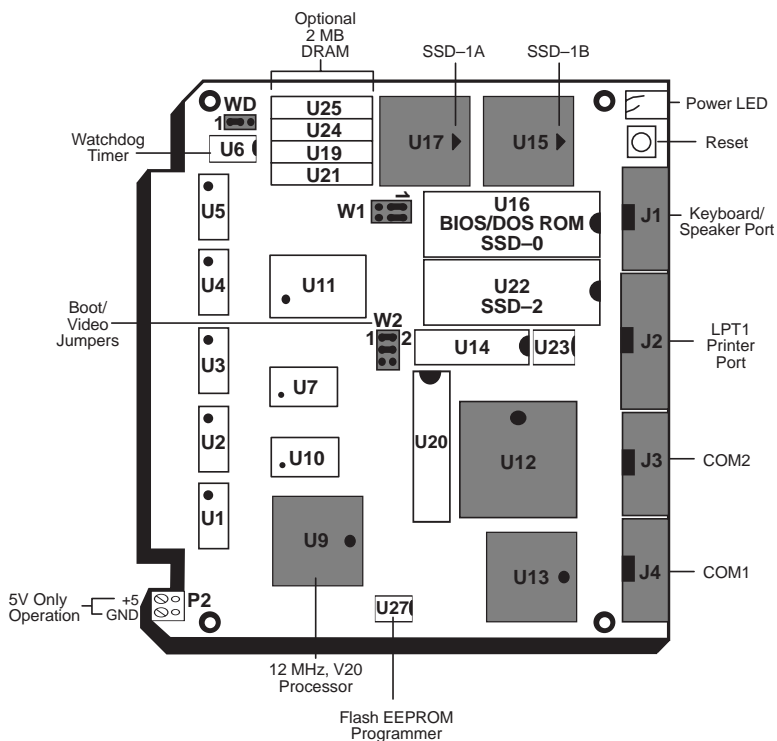

Figure 2-1 – 5012A Component Diagram
1. Please refer to Figure 2-1 for the location of various connectors before installing the 5012A Control Card.